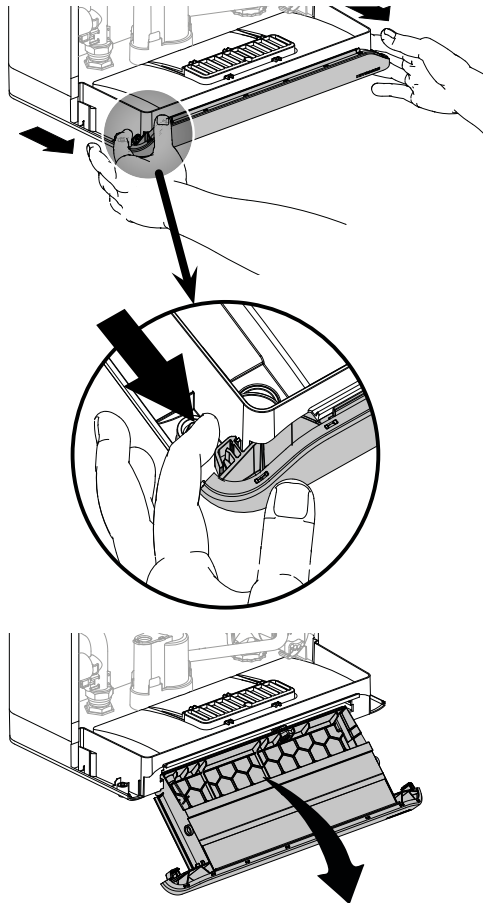

Figure 39: Pulling out the tray
1. Pull out the controller as shown in Figure 39.